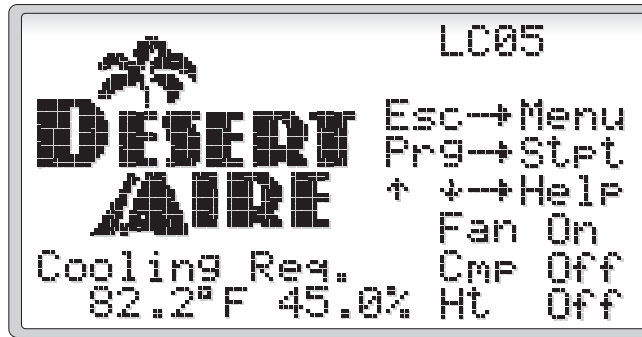

Figure 1
2.1 Menu Overview and General Instructions (Figure 1)
Your Desert Aire controller is pre-programmed and configured at the factory for use in the application you have specified. The internal display terminal (IDT, see Figure 1) allows the operator to monitor and adjust the setpoints of your Desert Aire system. The IDT has an LCD screen and six keys. These keys are labeled as below:
The Home Screen (Figure 1) displays the Desert Aire logo and shows the dehumidifier status, zone temperature and relative humidity and the operational state of the fan, compressor and air heating. The unit type is displayed in the upper right of the screen indicating either an LC or LV and the tonnage. Below this line, “Esc → Menu” indicates that if the **Esc** key is pressed, the Main Menu will be displayed. Pressing **Esc** on any other screen will take you back one screen. The “Prg → Stpt” indicates that if the **Prg** key is pressed, the setpoints can be changed. The “↑↓ → Help” indicates that if the **UP** or **DOWN** keys are pressed, the help screens will be shown. The **UP** or **DOWN** keys will now scroll through the help screens.